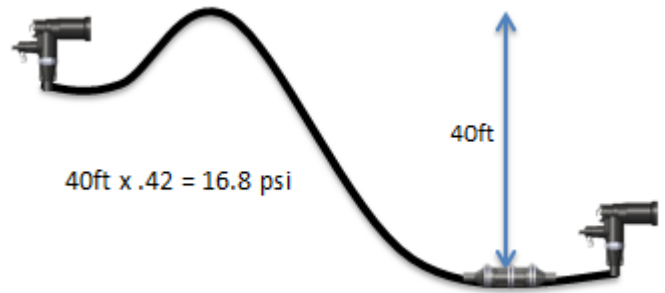

Figure 2: Calculate the pressure that the fluid at the highest point has on the lower points in the cable.
- d. Calculate the pressure that the fluid at the highest point has on the lower points in the cable, such as terminations and splices, using the same equations above for XL and DMDB fluids (Figure 2).